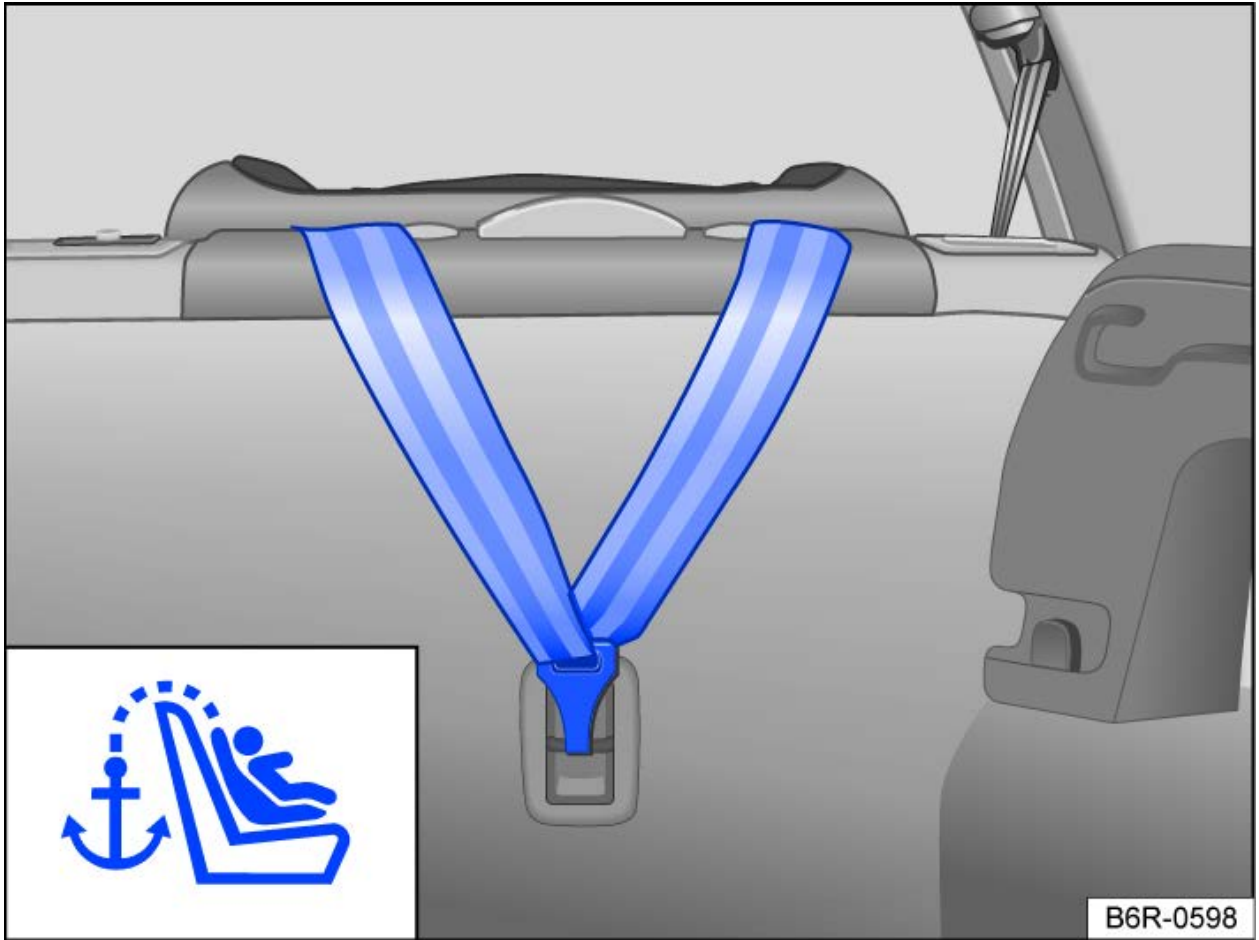
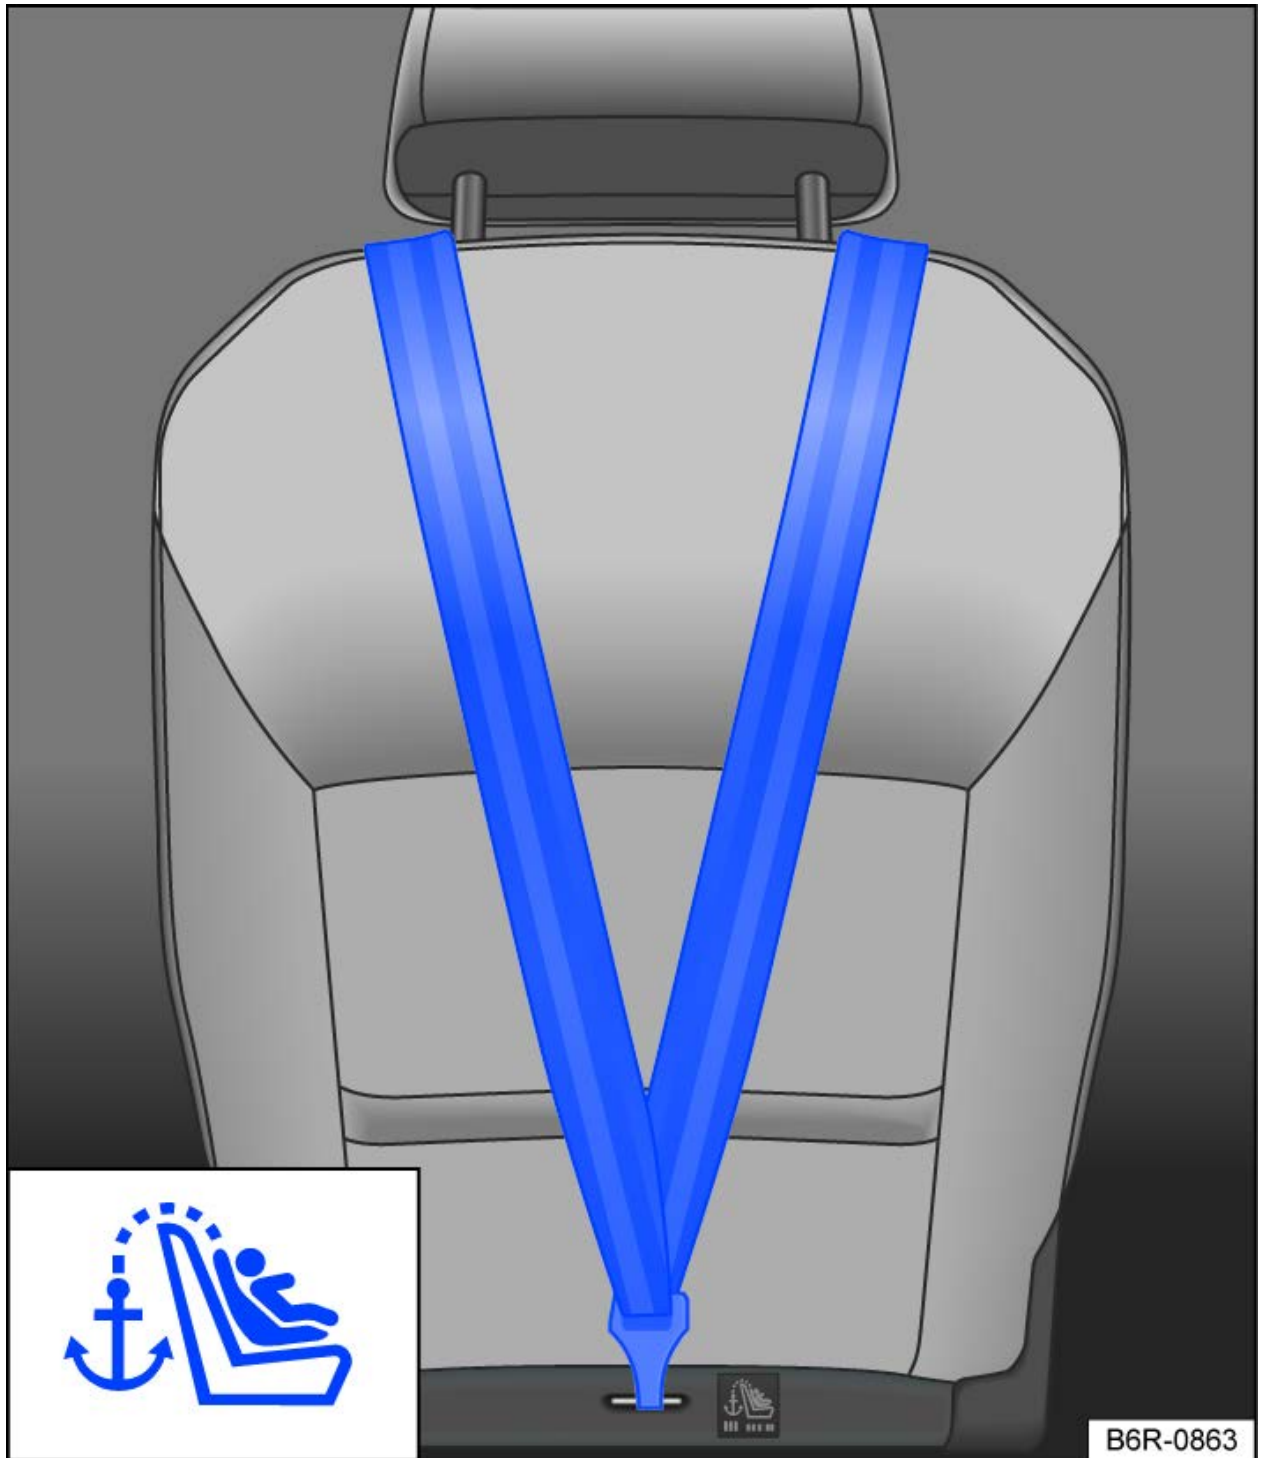

Fig. 1 In the luggage compartment: Attached top tether.
Fig. 2 On the back of the front passenger seat: attached top tether.
The installation location of LATCH/UAS or i-Size anchor points is indicated by a symbol → *fig. 1* or → *fig. 2*.
- Pull the child seat top tether backwards over the seat and hook it into the corresponding securing eye which is marked as top tether → *fig. 1* or → *fig. 2*.